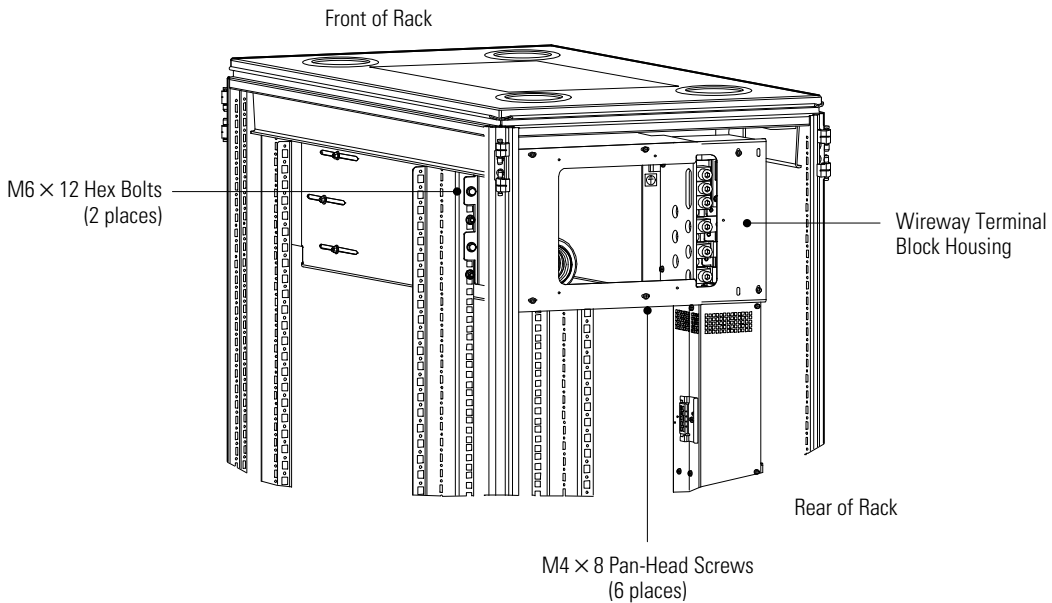

Figure 17. Wireway Terminal Block Housing Installation
18. Using two M6 × 12 hex bolts, secure the left side of the wireway terminal block housing to the rack. See Figure 17. Torque the bolts to 5.1 ± 0.8 Nm (45 ± 7 lb in).
19. Using six M4 × 8 pan-head screws, secure the wireway terminal block housing to the wireway and to the bar. See Figure 17. Torque the screws to 1.7 ± 0.2 Nm (15 ± 2 lb in).